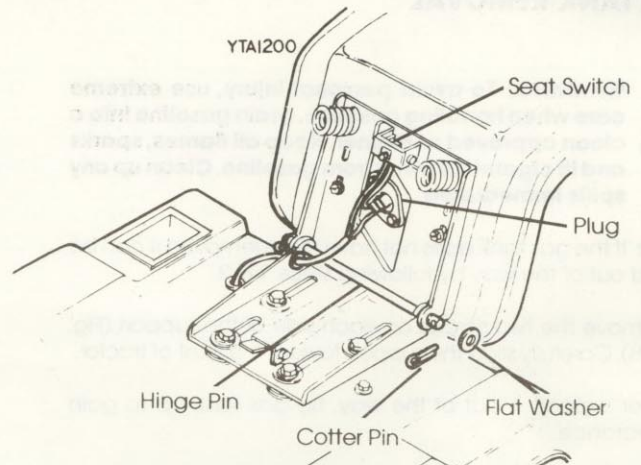

FIG. 5.1A
1. Tip the seat forward and locate the plug under the seat and disconnect plug from seat switch (Fig. 5.1A).
2. Remove the plastic connector and gently pull the wires through the hole in the side of the seat hinge support (Fig. 5.1A).
3. Remove the hinge pin. Remove the hardware from one side only and remove pin (Fig. 5.1A).